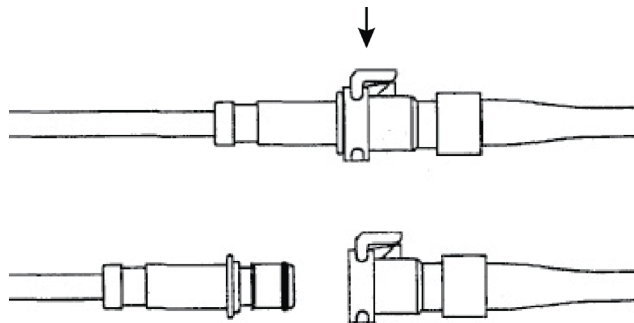

Figure 1-8: Disconnecting couplings
2. To disconnect, press down on the thumb tab (A) of the female coupling. The couplings will partially disconnect.
3. Pull the male coupling out to disconnect (Figure 1-8 on page 15).